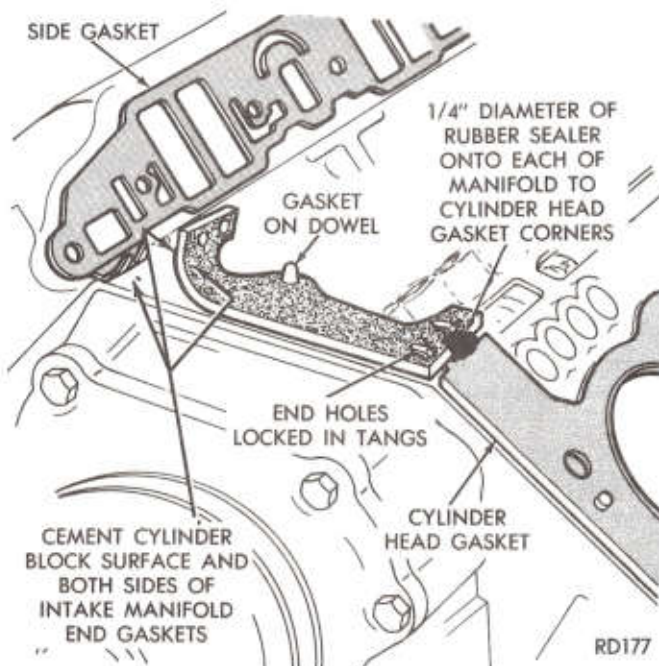
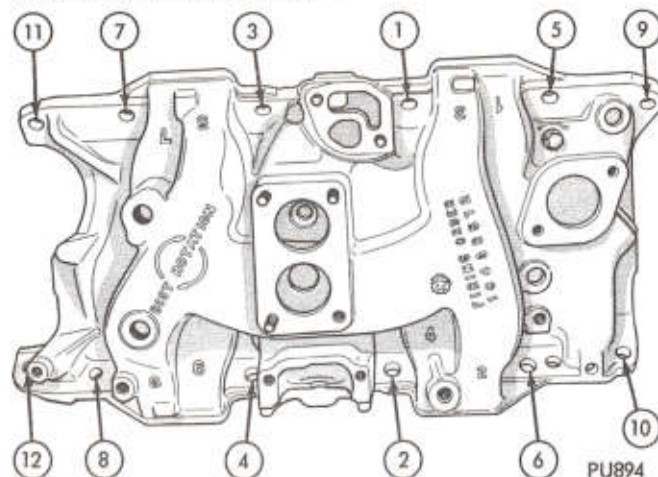

Fig. 10—Intake Manifold Sealing
Fig. 11—Intake Manifold Screw Tightening Sequence (Typical)
When installing gaskets, the center hole in the gasket MUST engage dowels in block. End holes in seals MUST be locked into tangs of head gasket. (Fig. 10).
- (12) Carefully install the front and rear intake manifold gaskets.
(13) Place a drop (approximately 1/4" diameter) of rubber sealer Part Number 4026070 or equivalent, onto each of the **four** manifold to cylinder head gasket corners.
(14) Carefully lower intake manifold into position on the cylinder block and cylinder heads. After intake manifold is in place, **inspect to make sure seals are in place.**
(15) Install the twelve attaching cap screws "Finger Tight." Tighten cap screws one through four to 25 ft. lb. (34 N·m) and tighten remaining cap screws to 25 ft. lb. (34 N·m) in the tightening sequence shown in (Fig. 10) then retighten cap screws one through four to 40 ft. lb. (54 N·m) and follow by retightening the remaining cap screws to 40 ft. lb. (54 N·m) in sequence shown. (Fig. 11).
(16) Install exhaust manifolds and tighten screws to 20 ft. lb. (27 N·m) and nuts to 15 ft. lbs. (20 N·m).
(17) Adjust spark plugs to specifications in Electrical Section, "Group 8" and install the plugs.